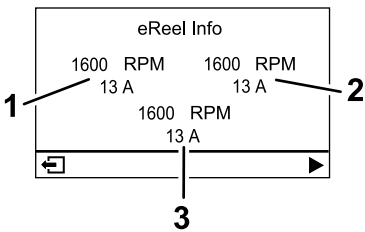

Figure 27
- **eReel motor screen (Figure 27):** shows the speed and current of each cutting-unit motor.